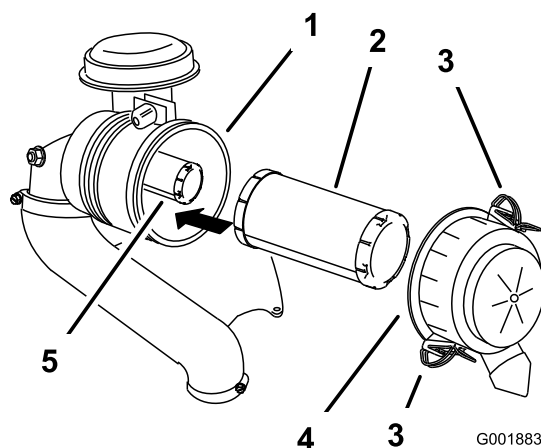

Figure 40
3. Release the latches on the air cleaner and pull the air-cleaner cover off the air-cleaner body (Figure 40).
5. Gently slide the primary filter out of the air-cleaner body (Figure 40).
2. If the safety filter is being replaced, carefully slide it into the filter body (Figure 40).
3. Carefully slide the primary filter over the safety filter (Figure 40).
4. Install the air-cleaner cover and secure the latches (Figure 40).